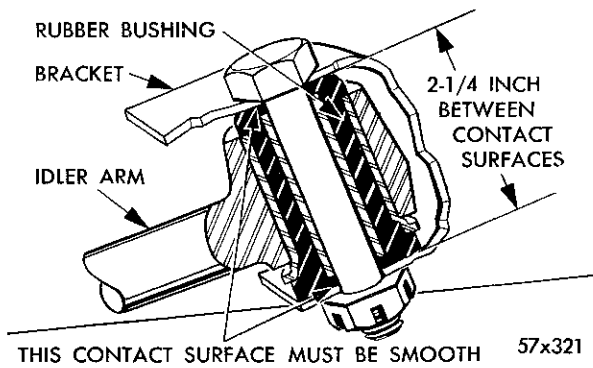

Fig. 9—Idler Arm (Sectional View)
- (1) Disconnect the steering gear arm at the link.
- (2) Rotate the steering wheel to mid-position and then check for backlash by attempting to move the steering gear arm back and forth.
(3) If backlash exists, loosen the gear shaft adjustment screw lock nut and tighten the adjusting screw enough to eliminate free play. Be sure the roller shaft and the worm do not bind. Recheck backlash.
(4) Tighten the adjusting screw lock nut while holding the adjusting screw from turning.
(5) Install the steering gear arm.
9. REMOVAL AND REPLACEMENT OF THE IDLER ARM (Fig. 9)